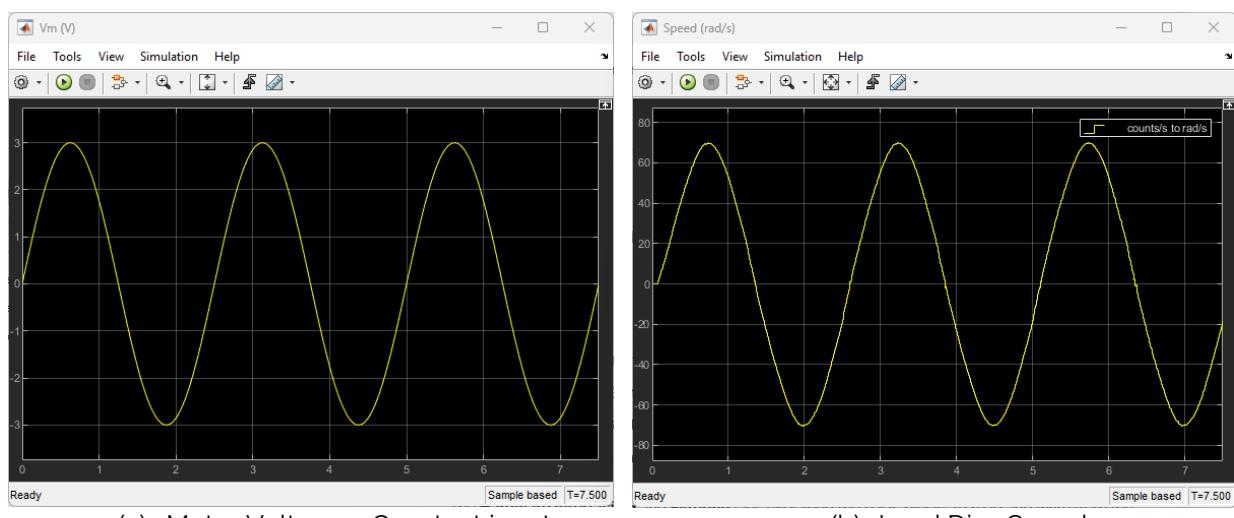

Figure 3: System response when applying a 3V 0.4 Hz sine wave voltage
9. Build and run the QUARC controller using the **Monitor & Tune** button on the **Hardware** or **QUARC** tab. An example response is shown in Figure 3.
17. Build and run the QUARC controller using the **Monitor & Tune**  button on the **Hardware** or **QUARC** tab. The response should look like figure 3 from the previous section.